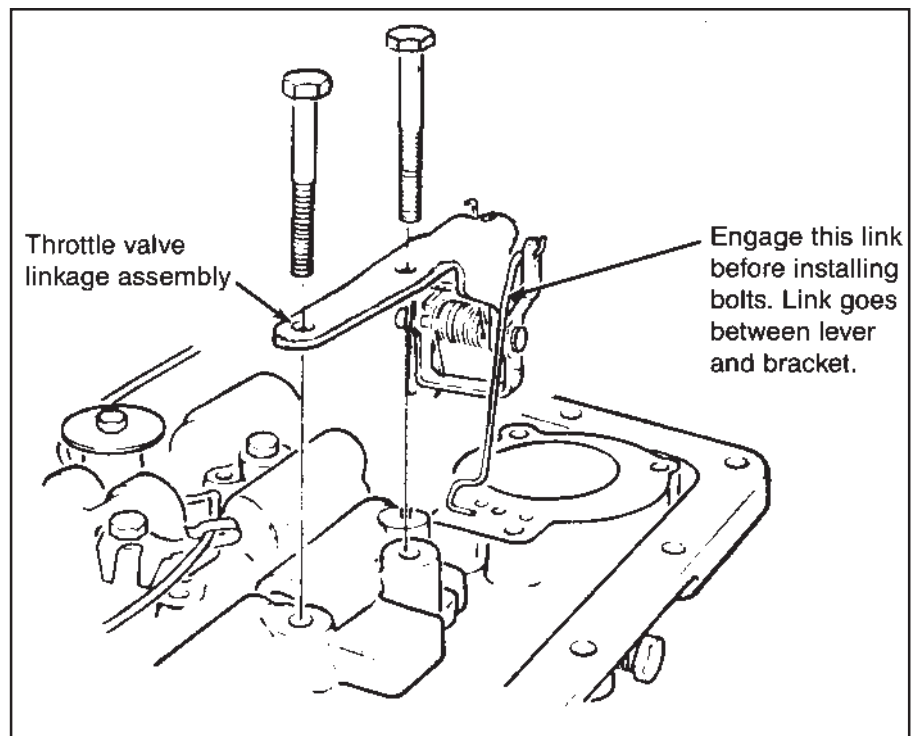

Figure 12
STEP 16. Street Only; Remove the spring and piston from the 1-2 accumulator housing (See Fig. 12.) Install both the **BLUE** and the **RED** spacers over the pin, then the piston (notice orientation.) No spring is used for **Street** level performance.
linkage onto the valve body as shown (See Fig. 12.) Engage the cable link with the large lever first. Hold the large lever up and the smaller one down. Then slip the assembly into position aligning it with the hold down bolt holes and engage the roll pin in the slot on the bracket. Insert bolts and tighten to 11 NM (8 Ft. Lb.) then make sure large lever operates freely. **IMPORTANT NOTE: The TV cable MUST be reset before operating vehicle refer to**